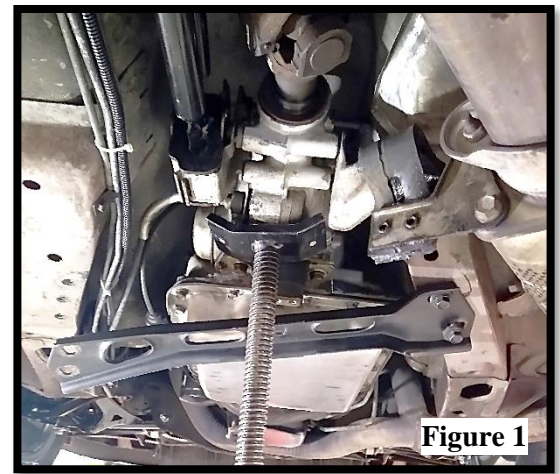

Figure 1
3. Use a floor jack to support the weight of the transmission and remove the transmission cross member. **(Figure 1)**